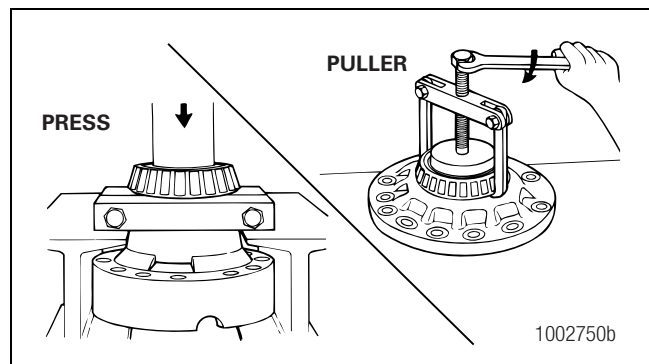

Figure 3.21
8. If the differential bearings need to be replaced, use a bearing puller or press to remove the bearing cones from the case halves. Figure 3.21.